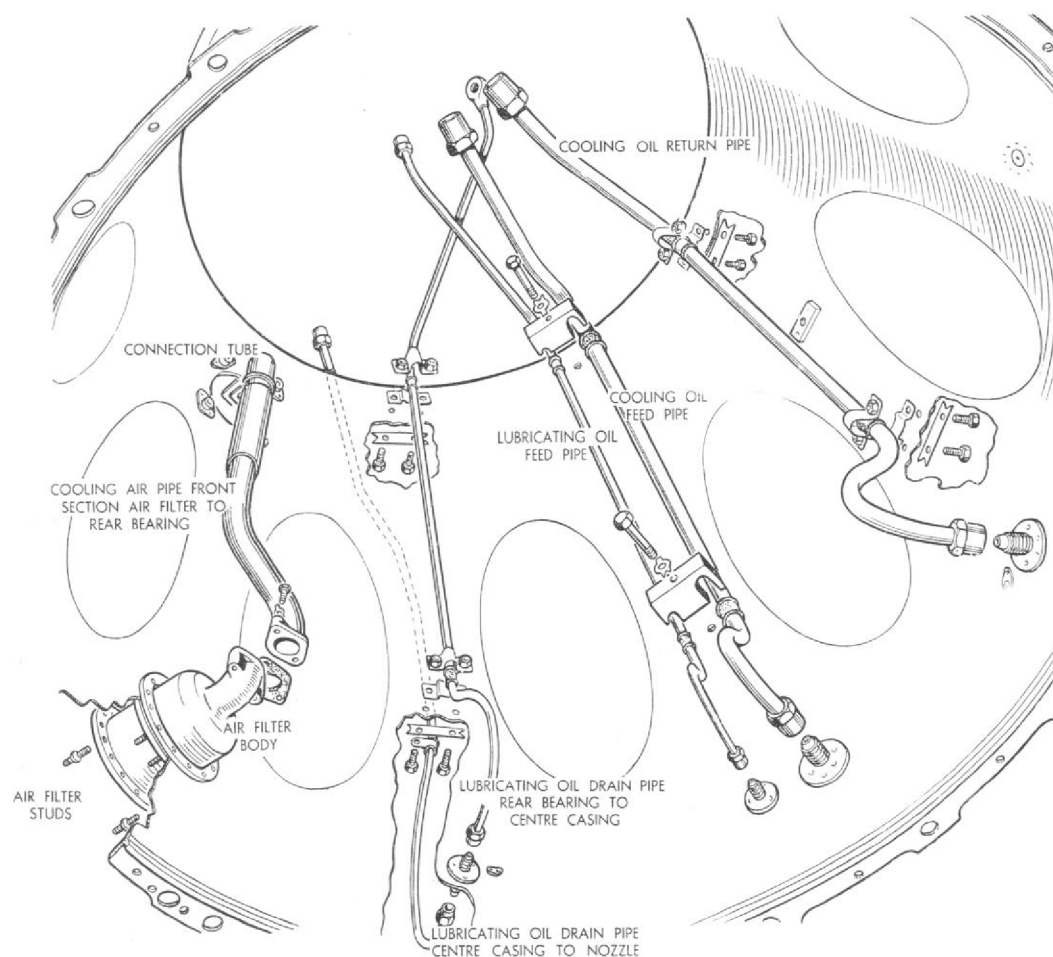

Fig. 1. Piping arrangement inside front cone.
REMOVING THE INTERNAL PIPES AND AIR FILTER, Fig. 1.
1. Unlock and remove the two $\frac{1}{4}$ in. B.S.F. bolts from the rear cooling air pipe flange on the filter body, inside the front cone; remove the pipe, Fig. 1.